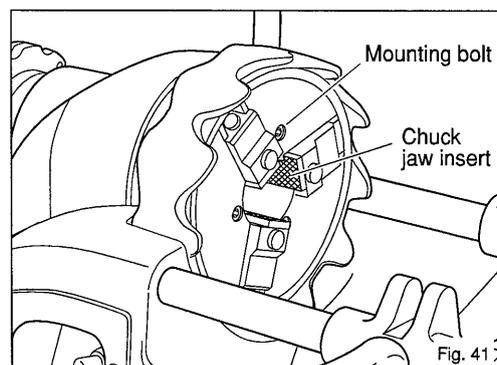

Fig. 41
4. Chuck Configuration and Care (Fig. 41)